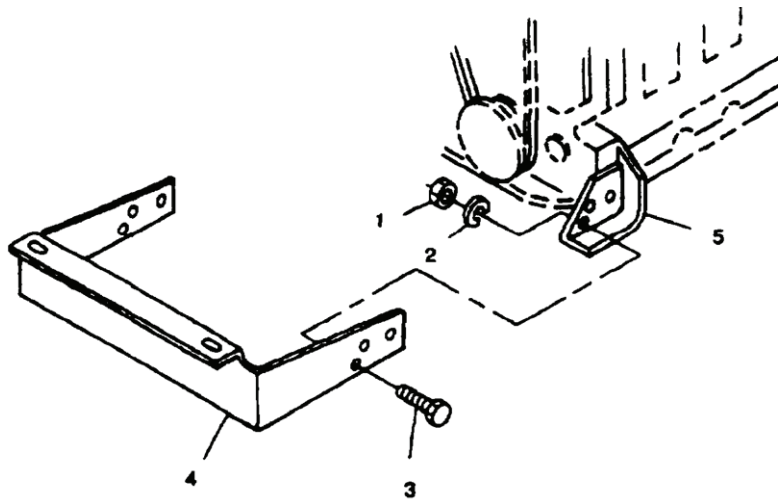

Figure 14. Radiator Mounting Bracket.
51. Remove bolts (38) and lockwashers (39) securing generator to flywheel housing. Discard lockwashers (39).
52. Remove nuts (1), washers (2), snubbing washers (3), and bolts (4) securing engine mount brackets (5) to skid base.
53. Remove nuts (Figure 14, Item 1) lockwashers (2), bolts (3), and radiator mounting bracket (4) from engine mount brackets (5). Discard lockwashers (2).
8. Install bolts (38) and new lockwashers (39), tightening bolts (38) slowly to ensure even and proper seating of generator housing lip to flywheel housing.
9. Secure engine mount brackets (5) to skid base with bolts (4), snubbing washers (3), washers (2), and nuts (1). Torque bolts (4) to 75 ft•lbs (102 N•m).
10. Align scribe mark on generator drive disc and engine flywheel, and install bolts (35) and new lockwashers (36) securing generator drive disc to engine flywheel.
11. Install screen/cover (34) on generator case with screws (32), washers (33), new lockwashers (31), and nuts (30).
12. Loosen nuts (23 and 27) and adjust bolts (25) to obtain 0.5 inch (12.7 mm) minimum clearance with skid base. Torque nuts (23) to 150 ft•lbs (204 N•m).
13. Install radiator mounting bracket (Figure 14, Item 4) with bolts (3), new lockwashers (2), and nuts (1) to engine mount brackets (5).